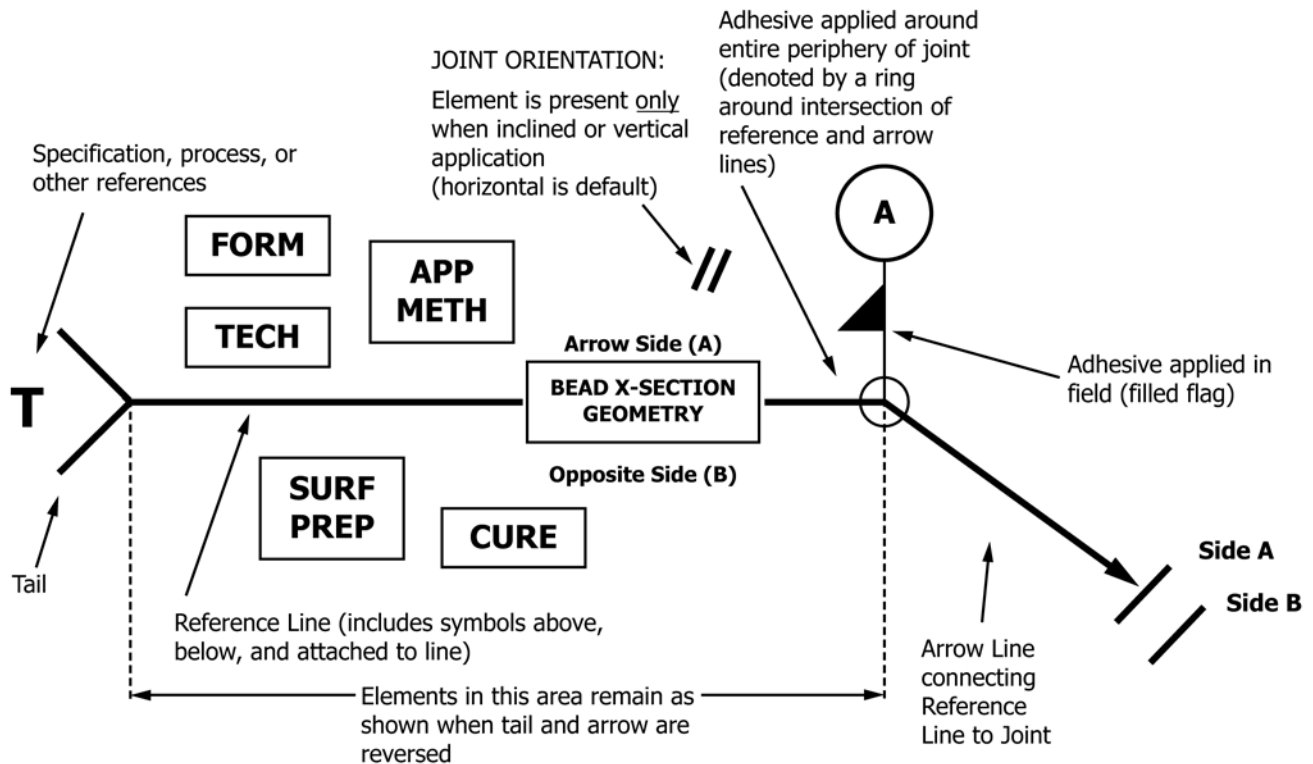

FIG. 1 Standard Locations of Elements of the Adhesive Symbol
nology family, requirements for surface preparation, application method (bead versus roll coat), and cure method. The optional tail (shown at left in Fig. 1) provides a place to include additional information about the adhesive that is not referenced in other notations.
3.2 Refer to Fig. 1 for an overview schematic of the adhesive symbol denoted by a mast supporting a circle with the letter “A” inside for adhesive. Detail behind each of the elements noted (for example, FORM, CHEM, APPL METH) can be found in corresponding tables in Section 5.
4.1 The elements represented in Fig. 1 are explained in greater detail in Tables 1-5 and Fig. 2.
5.1 *Symbols With References*—When specifications, processes, or other references are used with the adhesive symbol, the notation is placed in the tail (see “T” symbol in Fig. 1 or Fig. 3). This notation may reflect information about a particular manufacturer’s product or other pertinent data not contained in the symbol elements.